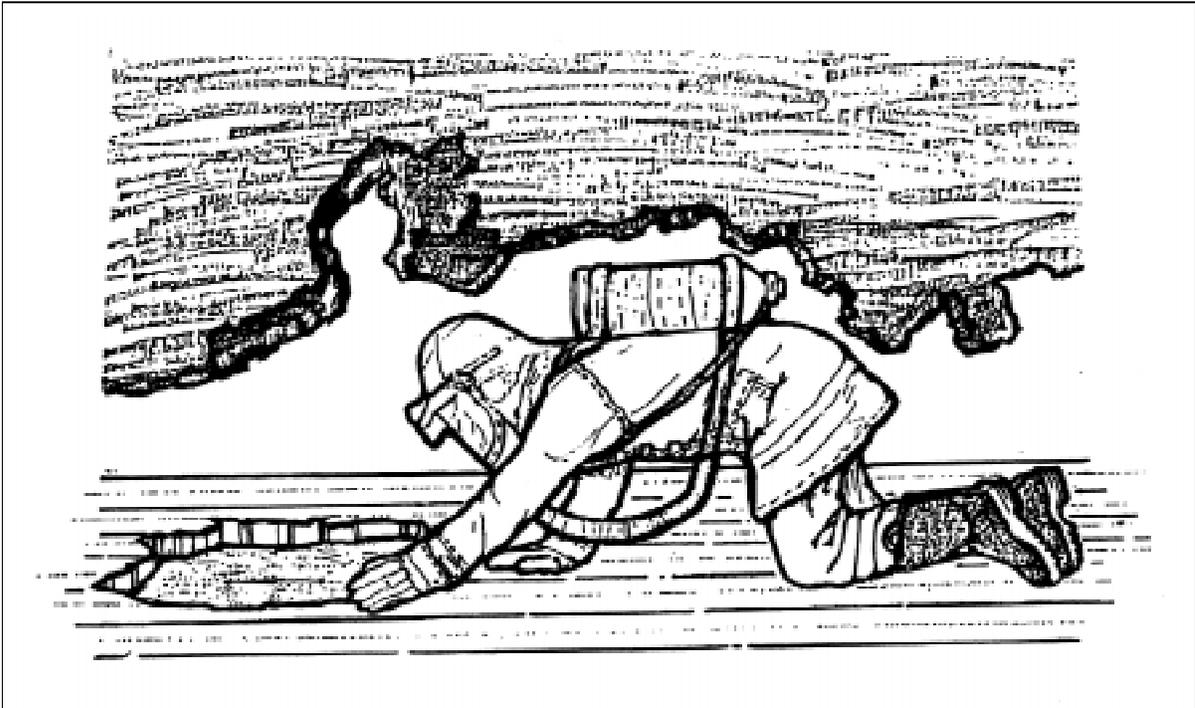

Figure 8-9. Rescue position
- Stay low, move cautiously (Figure 8-9), and carry a hand light.